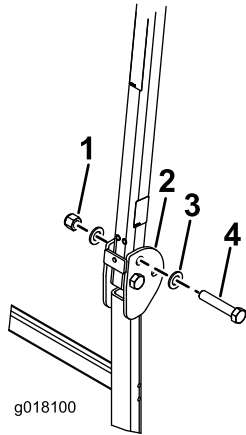

Figure 8
2. Insert a washer (13/16 x 1-1/2 inches) onto each bolt (3/4 x 4 inches) as shown in Figure 8.
3. In the holes where the pins were removed, install the bolts and washers (Figure 8).
4. Install another washer onto each bolt and secure with nuts (3/4 inch) as shown in Figure 8. Torque the nuts 323 to 396 N·m (238 to 292 ft-lb).
5. Torque the ROPS pivot bolt (Figure 8) 91 to 113 N·m (67 to 83 ft-lb) to avoid any bouncing of the roll bar and sunshade.